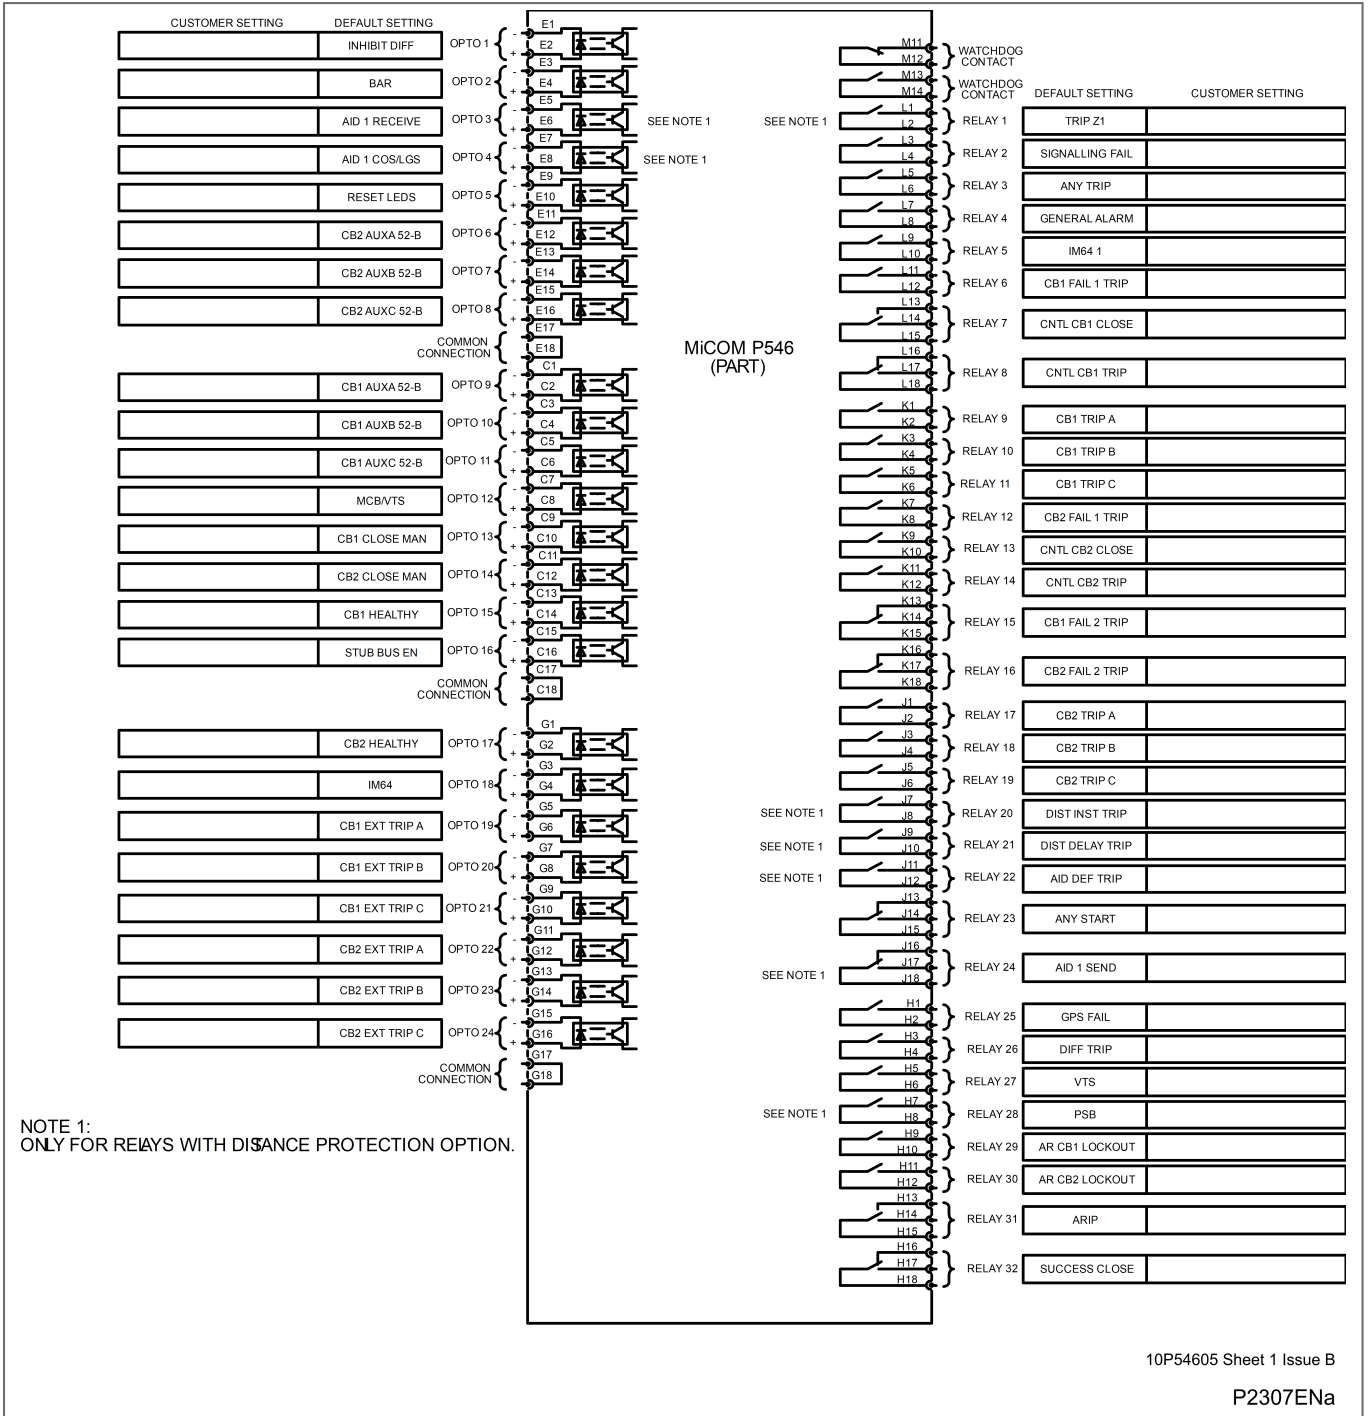

Figure 23 - P546 - 24 inputs/outputs default mapping – 16 standard and 8 high-break outputs
- Figure 23 - P546 - 24 inputs/outputs default mapping – 16 standard and 8 high-break outputs